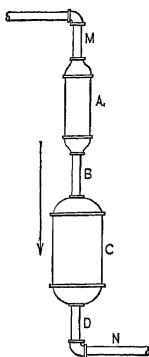

FIG. 22. No more current can flow through the large pipe *C* than can get through the other pipes *M*, *A*, *B* and *D*.
14. Series Circuit. Current. If we join four pipes *A*, *B*, *C* and *D*, Fig. 22, of unequal diameters together in series, and force a current of water through them, the water